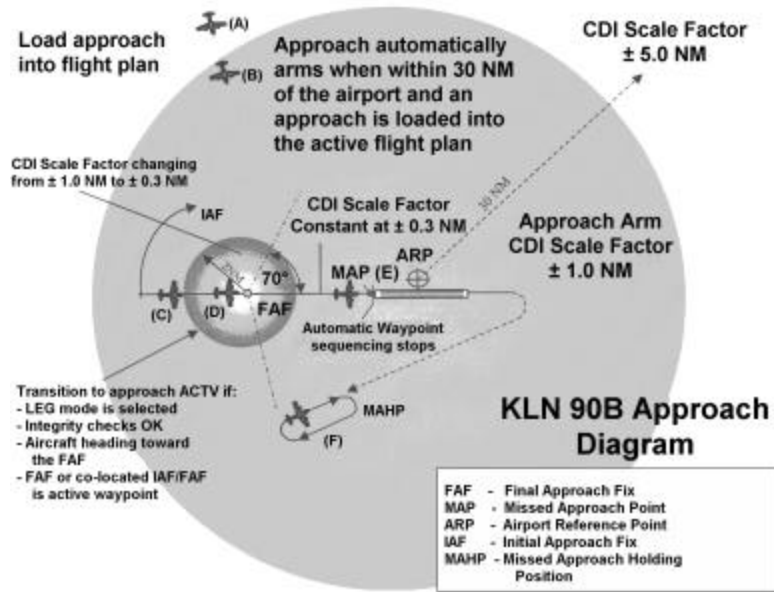

Figure 3D-56. Approach Sequence
(2) In addition to the LEG and OBS course modes, there are also two approach modes. These are approach arm and approach active. The status of the approach mode is indicated both on the external switch/annunciator and on the status line of the KLN-90B. The external annunciator will indicate ARM for the approach arm mode and approach active will be annunciated by ACTV. The main difference between these modes from the normal en route mode is that the integrity monitoring is set to a tighter level. Another difference between these modes and the en route modes is the CDI scale factor will usually change to ± 1.0 nm for ARM and will always change to ± 0.3 nm when in the APR ACTV mode.
(3) The ARM mode can be selected in two ways. The normal way is that this mode will be selected automatically by the KLN 90B when the aircraft is within 30 nm of the destination airport and an approach for that airport has been loaded in the flight plan. It is possible to arm the approach mode at a distance greater than 30 nm from the airport by pressing the **GPS APR** switch, but the KLN 90B will not change the CDI scale factor until the aircraft reaches the 30-nm point. If the **GPS APR** external switch is pressed while the approach mode is armed, the KLN 90B will disarm the approach and change back to en route mode. The CDI scale factor will also change back to ± 5.0 nm. The approach can be rearmed by simply pressing the **GPS APR** switch again.
(4) The APR ACTV mode can only be engaged automatically by the KLN 90B. To cancel the APR ACTV mode, press the external **GPS APR** switch. This will change the mode to APR ARM. Once past the FAF, it is not possible to return to the approach active mode without conducting a missed approach and flying back to the FAF.
b. General Procedures for Non-Precision Approaches. Non-precision approaches will all have the same general flow. Refer to Figure 3D-56.